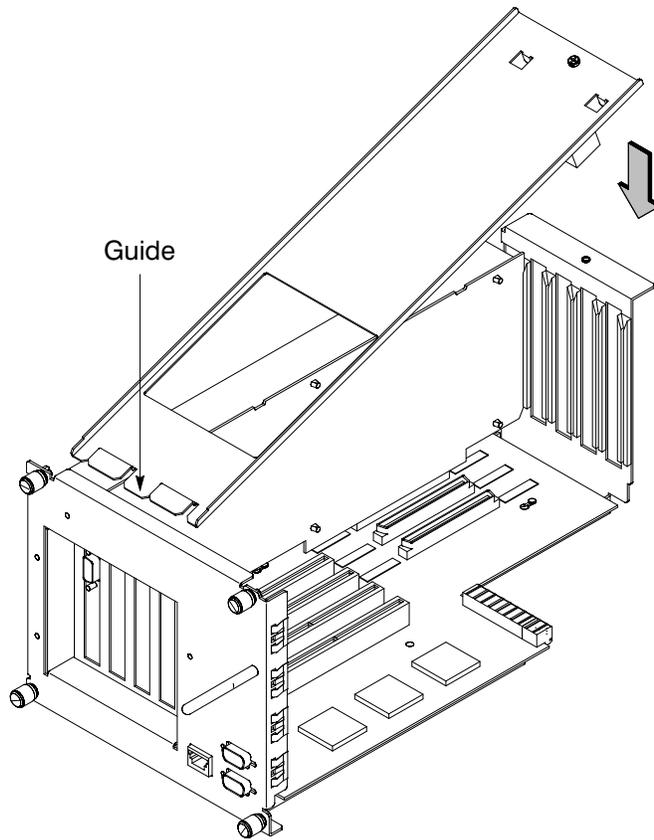

Figure A-37. Replacing EISA Assembly Cover
7. Insert cover in guide and secure with screw. Refer to Figure A-37.